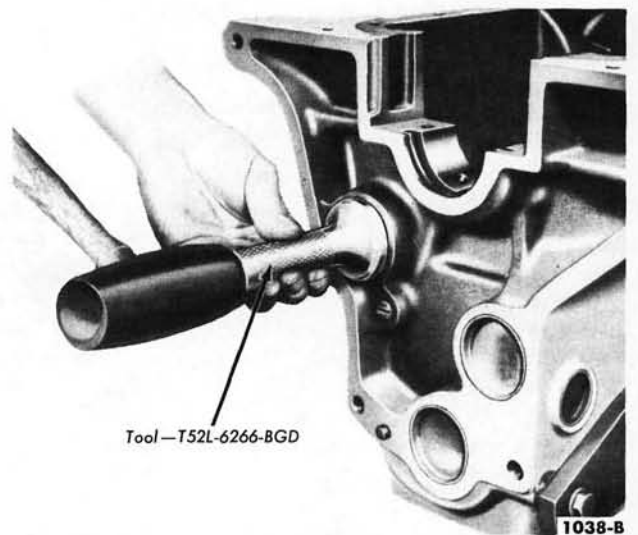

FIG. 32—Camshaft Rear Bearing Bore Plug Installation
3. Clean the camshaft rear bearing bore recess thoroughly. Coat the flange of a new plug with water resistant sealer and install it with the flange facing out (Fig. 32). Drive the plug in until the flange is flush or slightly below the casting surface. Install the camshaft and related parts. Install the engine in the chassis.